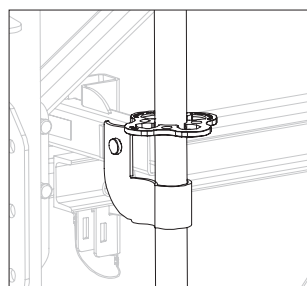

Fig. B6.02a
1. Place standard UVR 300 (46.1) (for VST 175: standard UVR 150 (46.2)) with the rosette on the connector UP-VST (38).
2. Mount retaining lug (38.1) to the bottom connector UP-VST (38) using bolts Ø 20 x 140 (39) and secure with cotter pins 4/1, galv.
3. Mount retaining lug (38.1) to the upper connector UP-VST (38) using bolts Ø 20 x 140 (39) and secure with cotter pins 4/1, galv.
Here, the rosette has to rest on the connector UP-VST (38) in order to safely transfer the forces. (Fig. B6.02a)